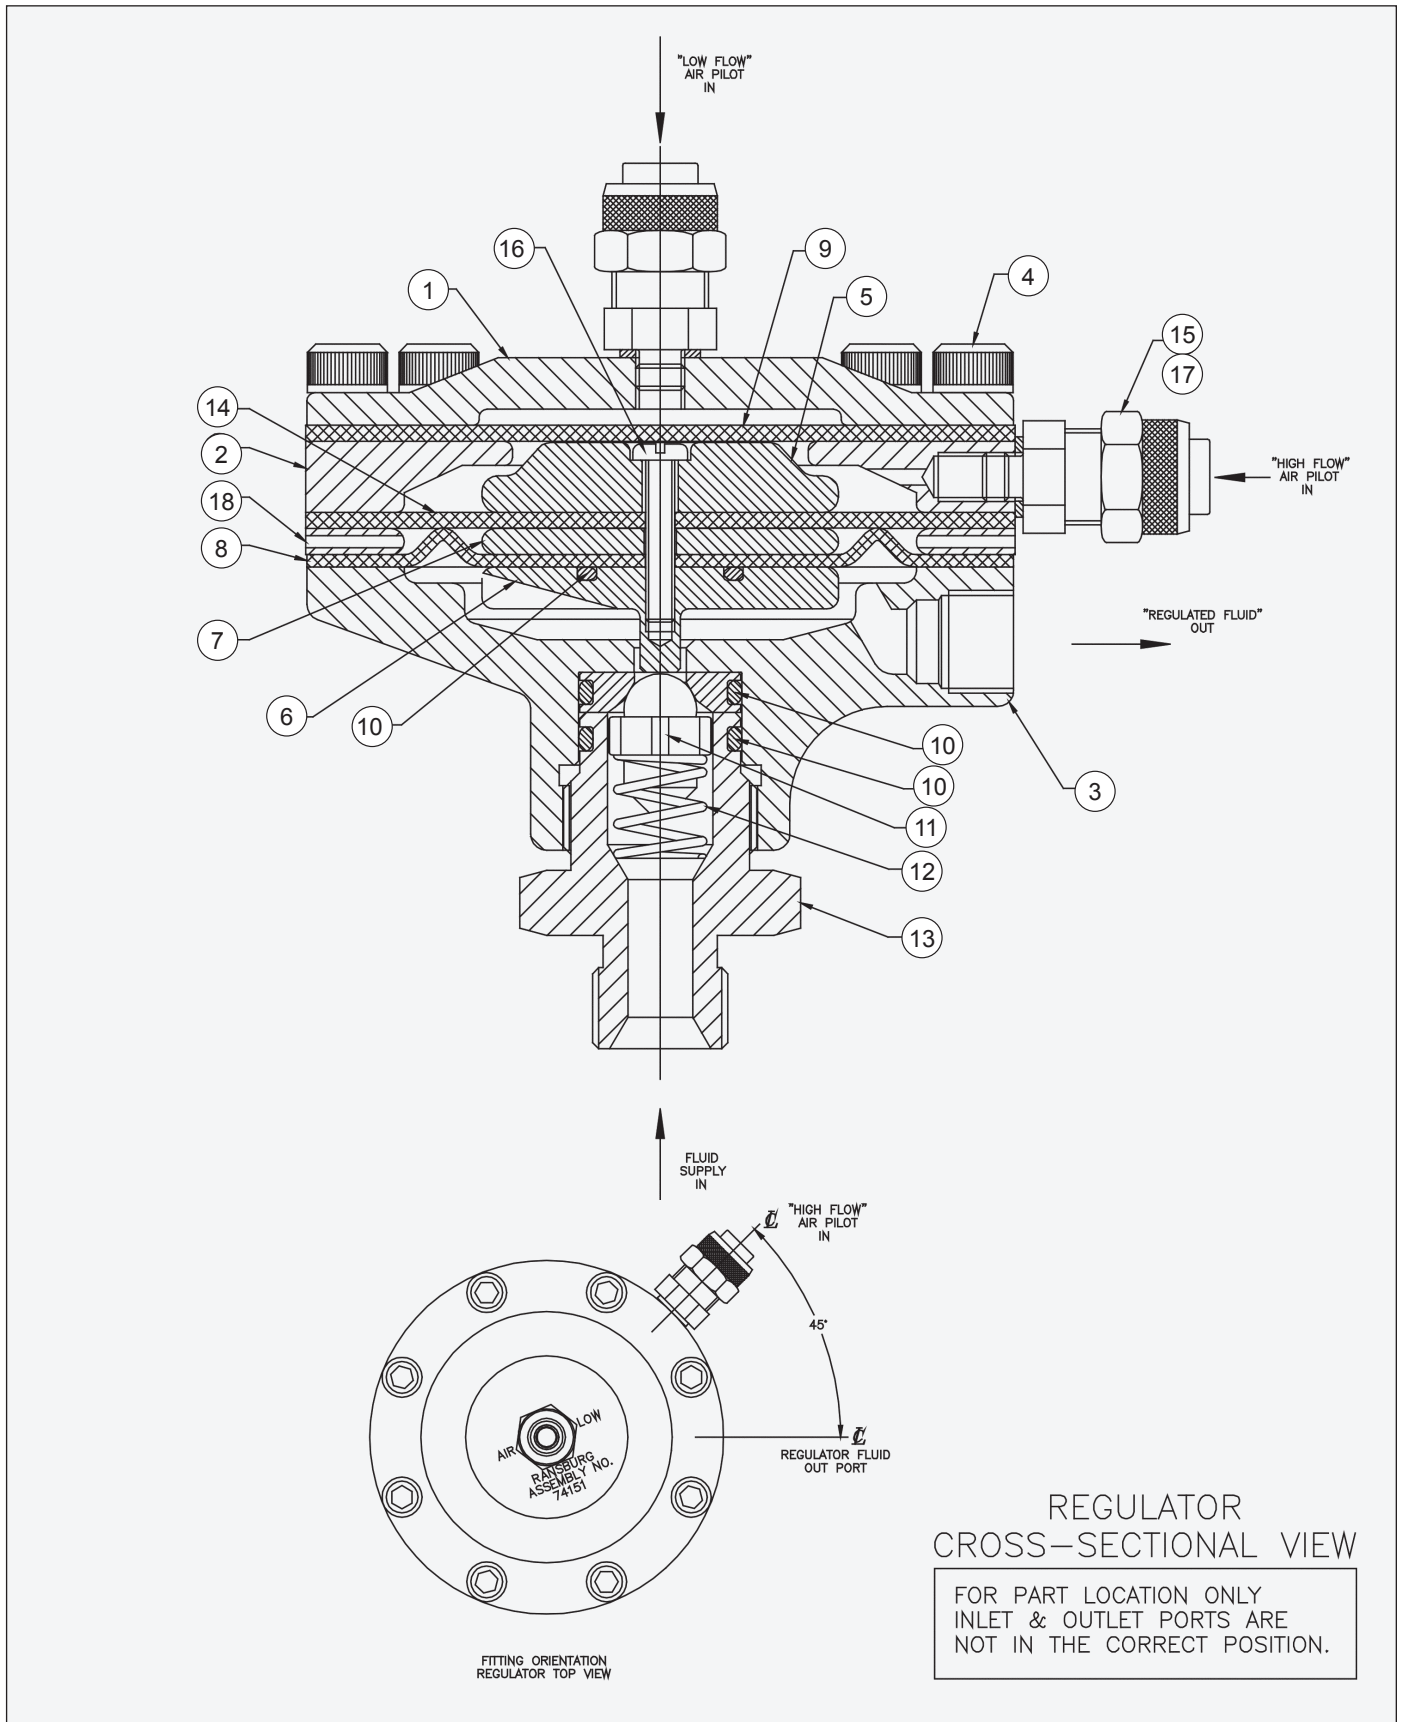

Figure 1: Regulator Cross-Sectional View
## DISASSEMBLY PROCEDURES (Refer to Figure 1)
(Refer to Figure 1)
13. Place Item 2 (spacer ring) on the top of Item 14 (center diaphragm) with largest opening facing "DOWN". Rotate Item 2 (spacer ring), without rotating the diaphragm assembly, so that the air pilot port of Item 2 (spacer ring) is 45° to the outlet port of Item 3 (lower housing) and all the clearance holes are aligned (see Figure 1).
### (Refer to Figure 1)